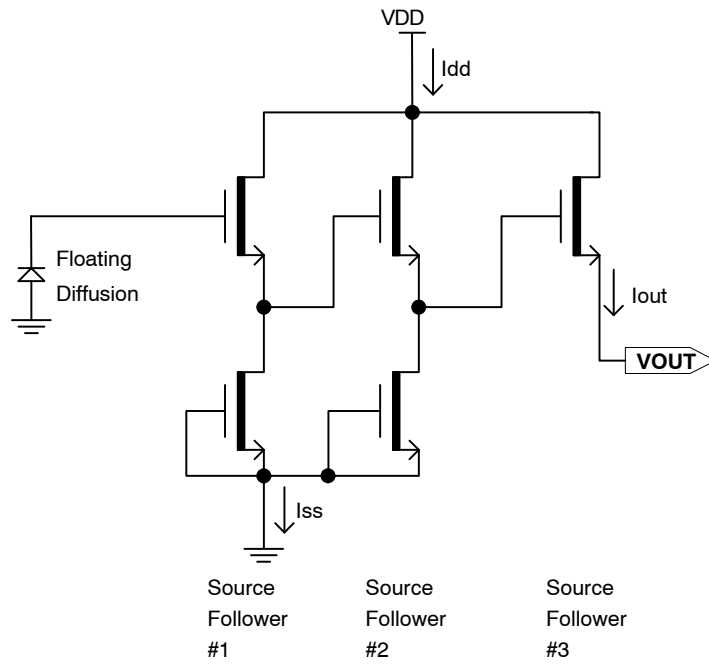

Figure 18. Output Amplifier
- Each output. See Figure 18: Output Amplifier. Note that the current bias affects the amplifier bandwidth.
- One output, unloaded. The maximum DC current is for one output unloaded and is shown as I_{SS} in Figure 18. This is the maximum current that the first two stages of one output amplifier will draw. This value is with V_{out} disconnected.